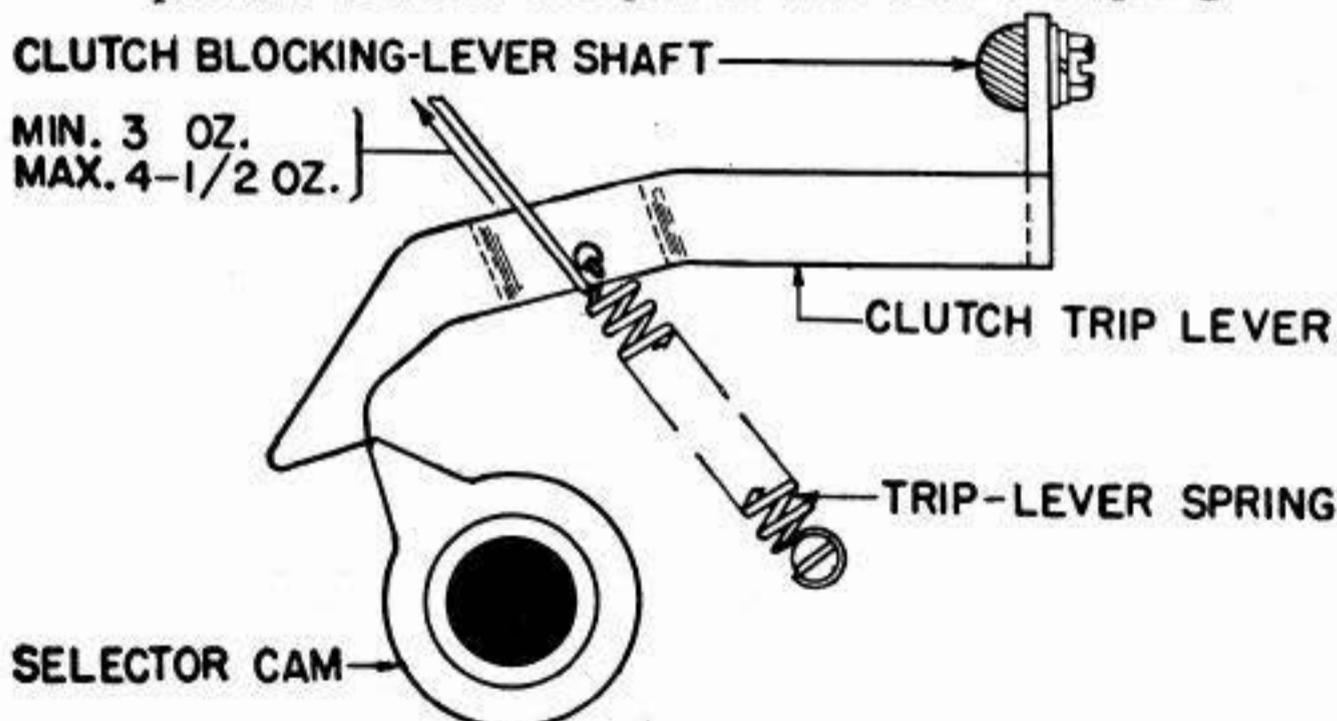

Fig 30
3.50 **Clutch Trip-Lever Spring:** It should require Min 3 oz, Max 4-1/2 oz, to start the lever moving. **Fig 30**